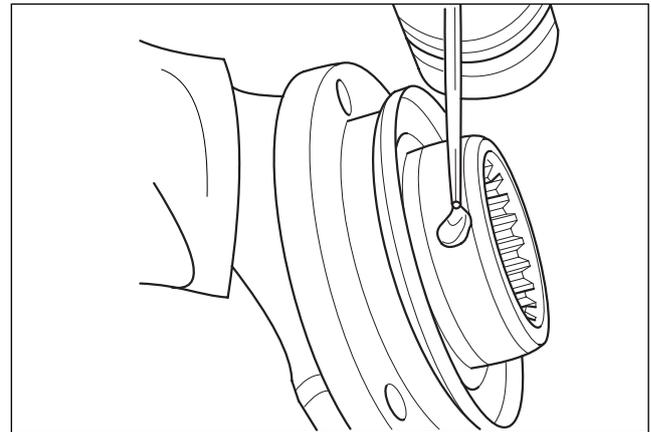

Fig. 4.7
- 2. If the deflector does **not** need to be replaced, lubricate the seal rotary sleeve journal of the flange (Fig. 4.7)